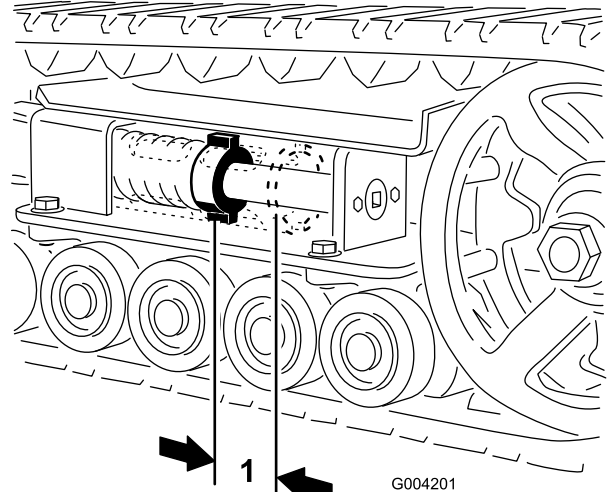
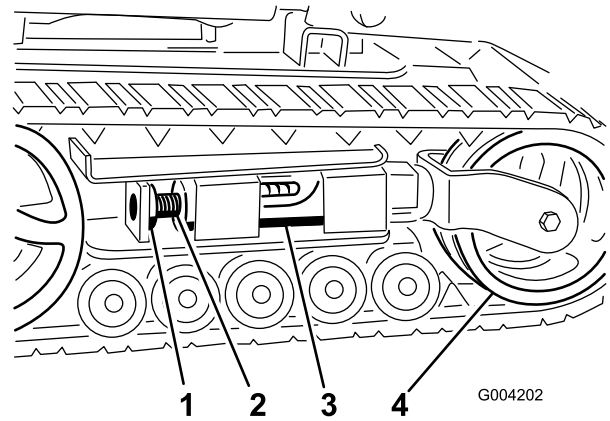
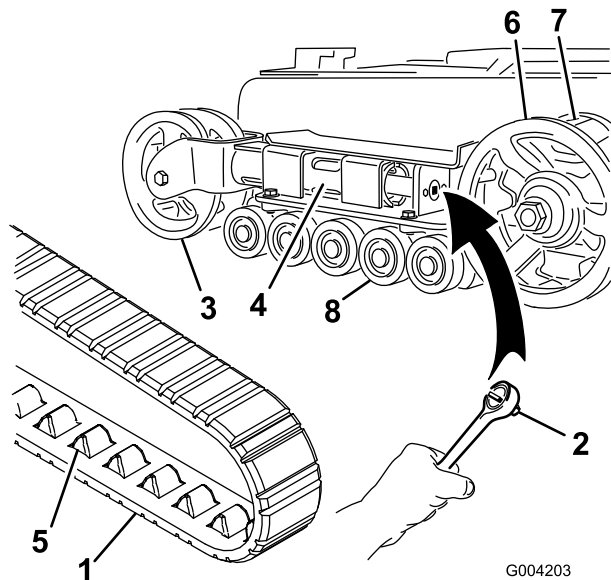

Figure 64
Figure 65
Figure 66
There should be 2-3/4 inches (7 cm) between the tension nut and the back of the tension tube (Figure 64). If not, adjust the track tension using the following procedure:
3. Remove the locking bolt and nut (Figure 65).
4. Using a 1/2 inch drive socket (Figure 66), turn the tensioning screw counter-clockwise until the distance between the tension nut and the back of the tension tube (Figure 64) is 2-3/4 inches (7 cm).
- Align the closest notch in the tension screw to the locking bolt hole and secure the screw with the locking bolt and nut (Figure 65).
- Remove the locking bolt and nut (Figure 65).
- Using a 1/2 inch drive socket, release the drive tension by turning the tensioning screw clockwise (Figure 65 and Figure 66).
- Push the tension wheel toward the rear of the unit to move the fork tube against the frame (Figure 66). (If it does not touch the frame, continue turning the tensioning screw until it does.)
- When the track is off of the tension wheel, remove it from the drive sprocket and road wheels (Figure 66).
the track fit between the spacers on the sprocket (Figure 66).
- Push the track under and between the road wheels (Figure 66).
- Turn the tensioning screw counter-clockwise until the distance between the tension nut and the back of the fork tube (Figure 64) is 2-3/4 inches (7 cm).